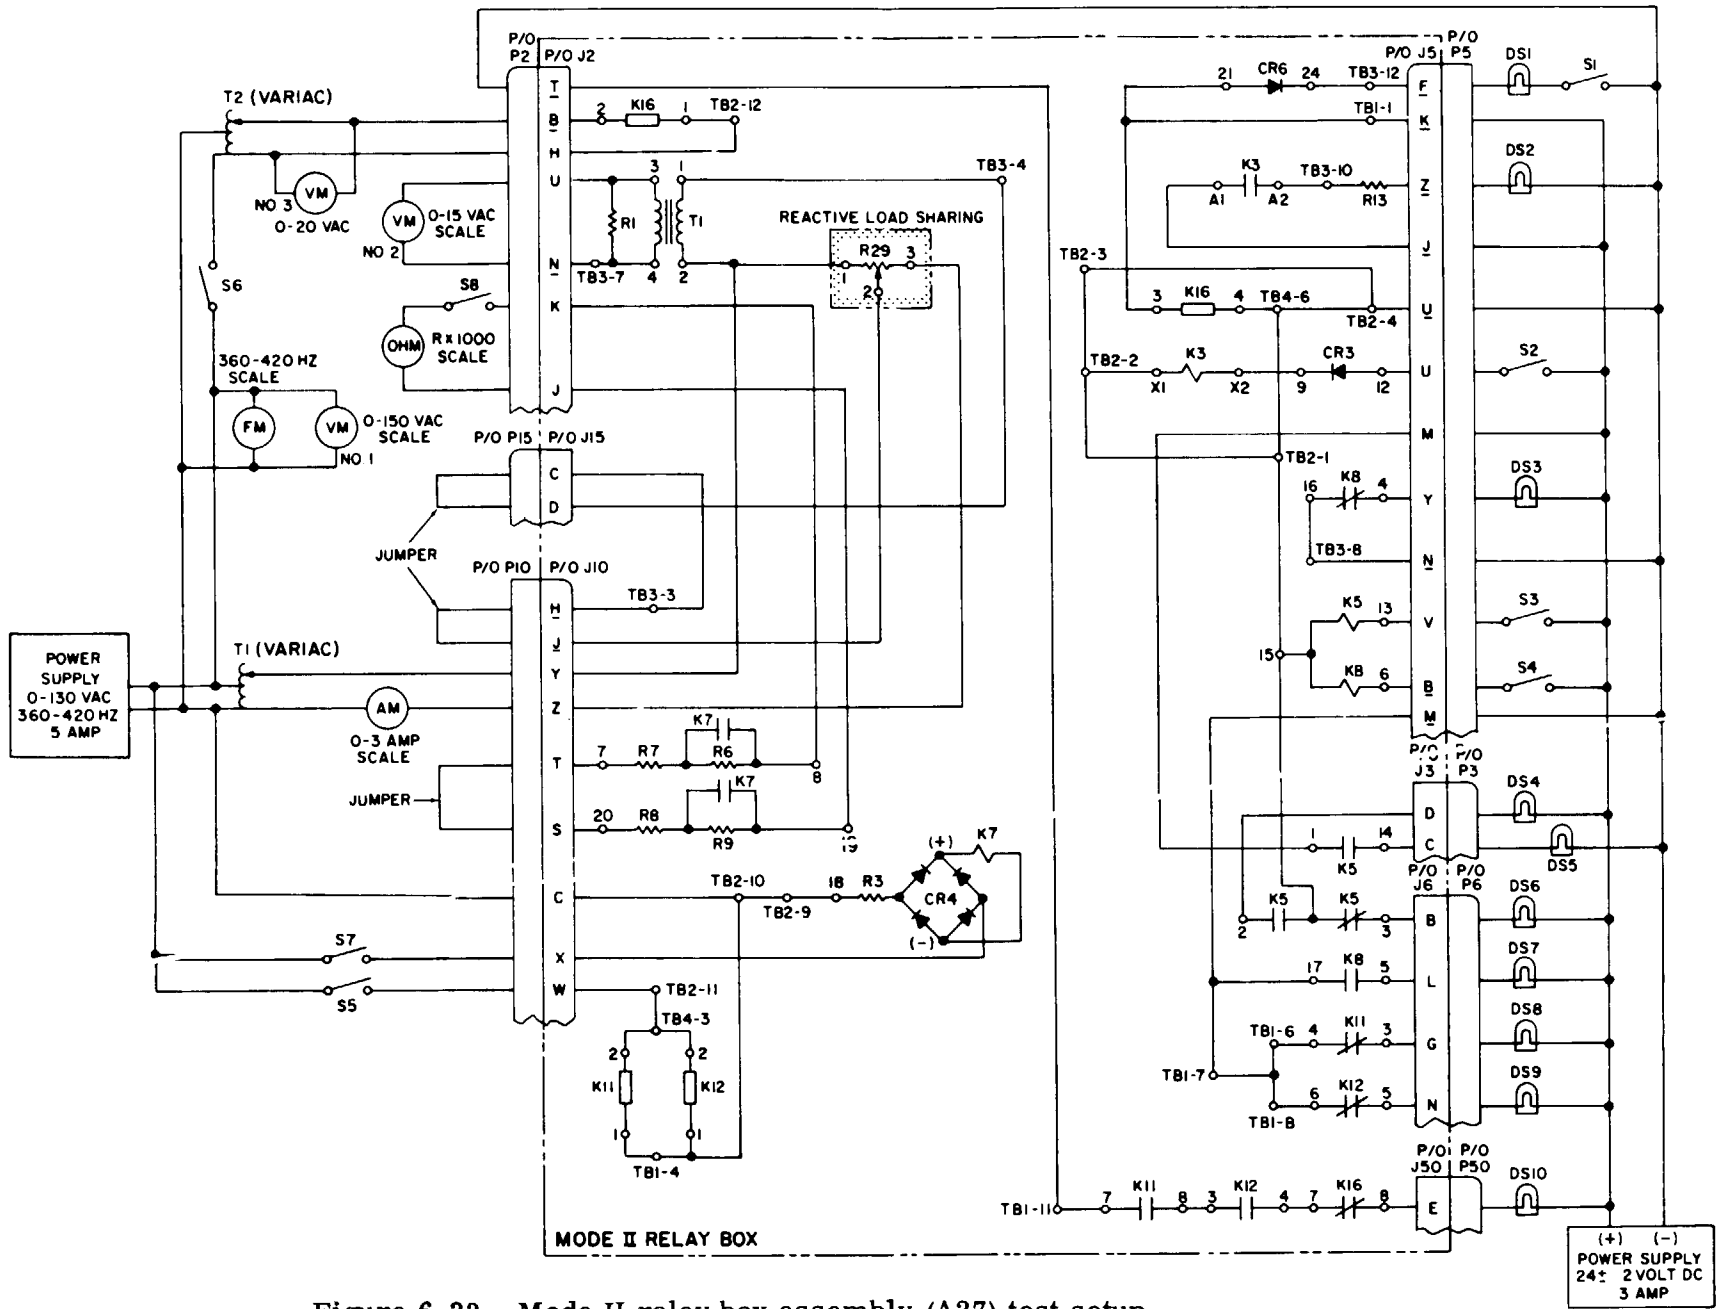

Figure 6-33. Mode II relay box assembly (A27) test setup
1.	Connect mode II relay box assembly to test equipment depicted in figure 6-33 and open all switches.